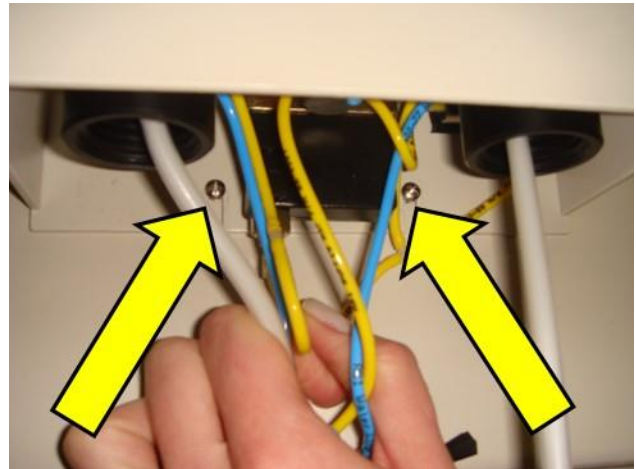

Fig. 2
5. Locate two Phillips head screws on back of existing bracket and loosen with a Phillips head screwdriver. (Fig. 2)